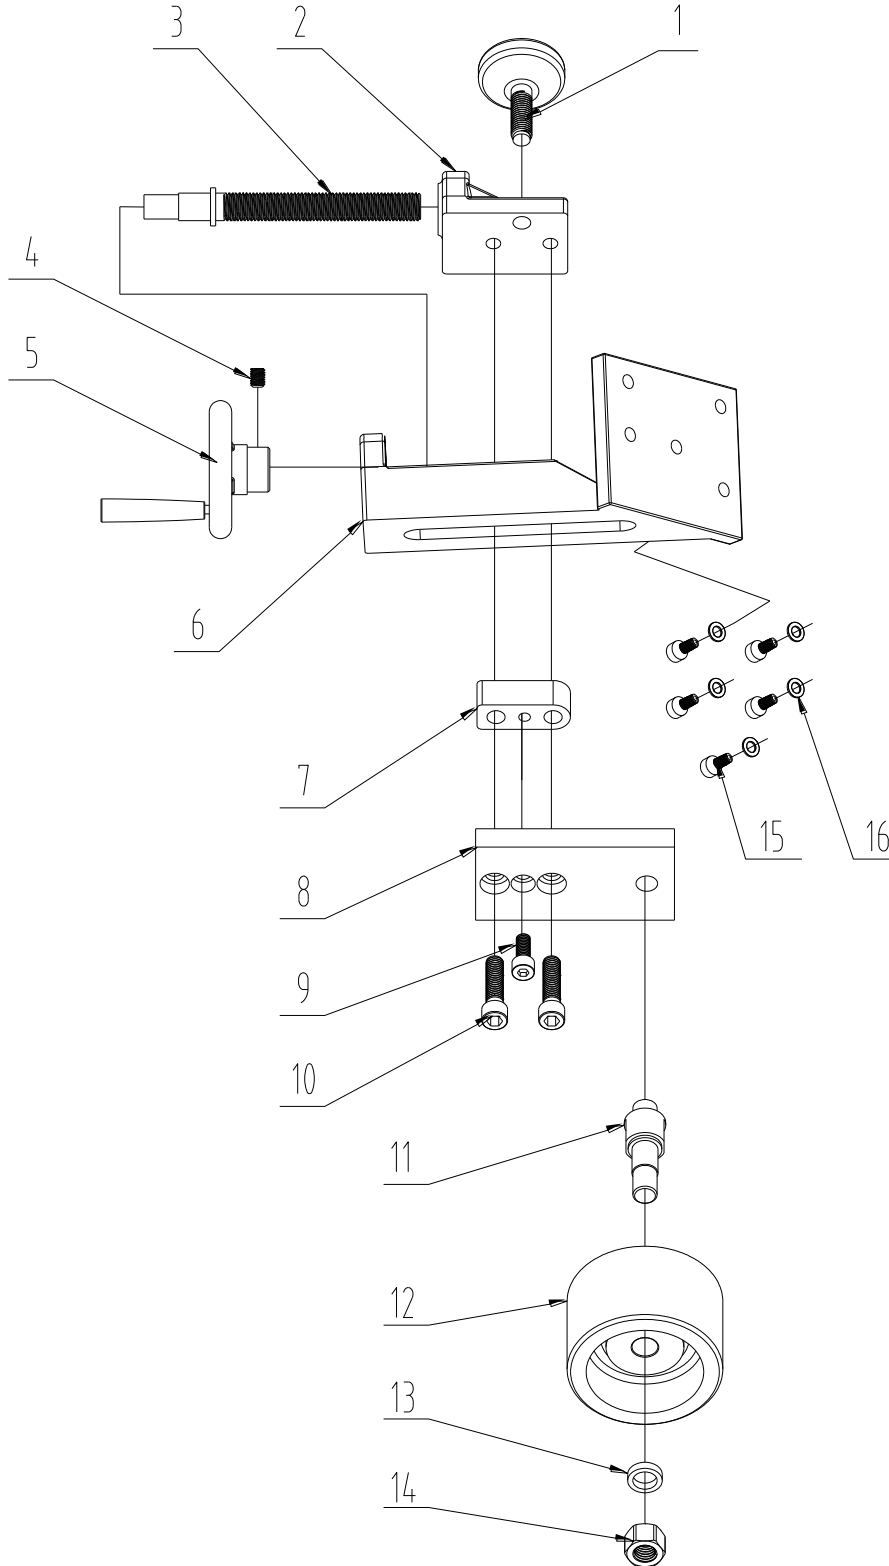

Figure 16
5. Wheel frame assembly (Figure 16) parts list